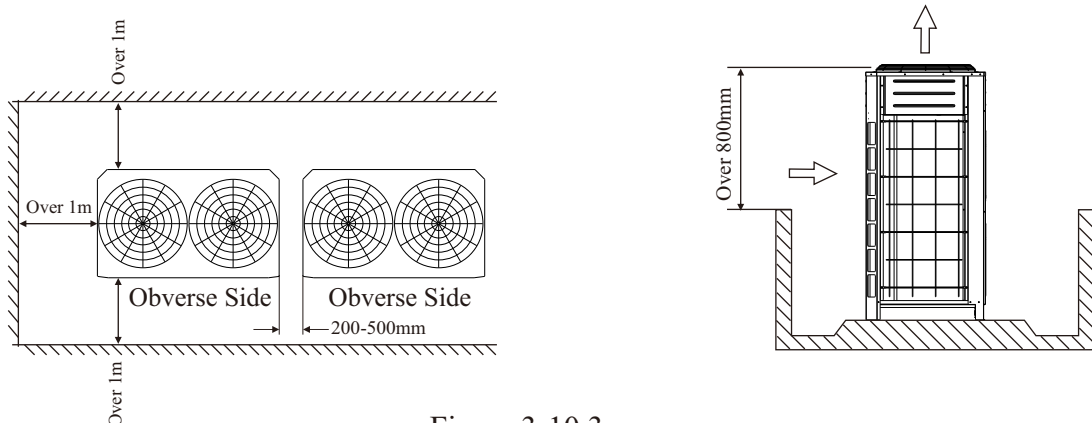

Figure 3-10.3
- 3) Please refer to Figure 3-10.3 when the outdoor units are higher than surrounding obstacles and arrange in one line.